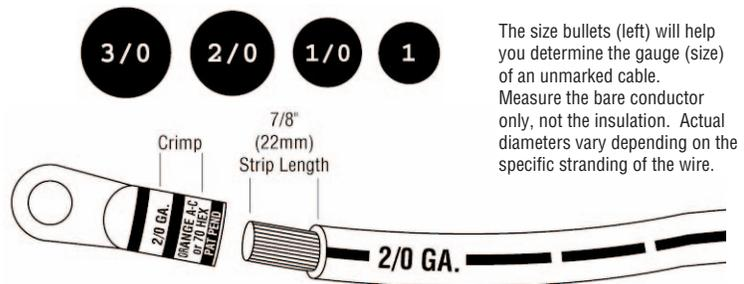

Fig. 1
7. Slide the handle grip onto and away from the end. Strip 7/8” to 1” (22 - 25 mm) of insulation from end of cable. Insert bared wires into barrel of lug. Crimp lug on to cable. Use two crimps on barrel for best connection. See Figure 1.